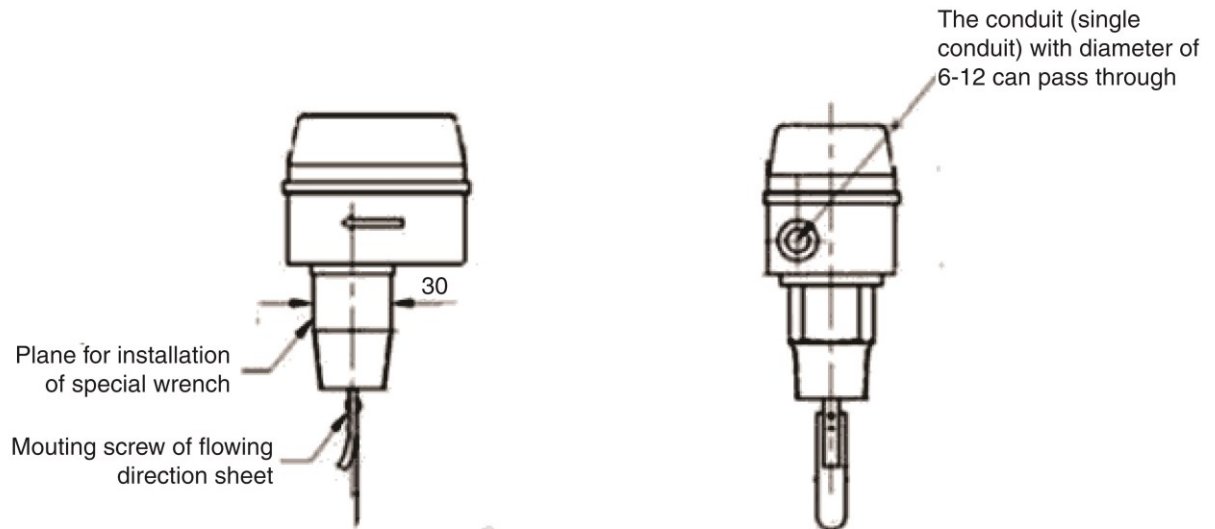

Fig.1 Dimension
- Turn up the flow and rotate the adjusting screw in clockwise direction. After turning up the ex-factory set value, rotate the adjusting screw in counterclockwise direction to turn down the flow value (as shown in Fig.1).